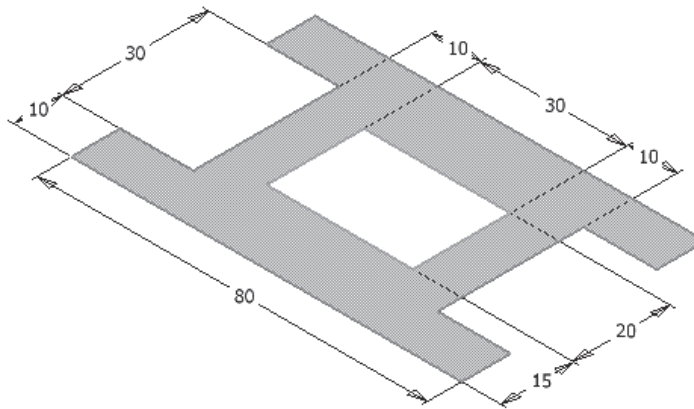

Figure 3-52 Selecting the profile to be extruded
- Select the profile to be extruded by defining a point outside the inner loop but inside the outer loop; the profile will be highlighted, as shown in Figure 3-52.